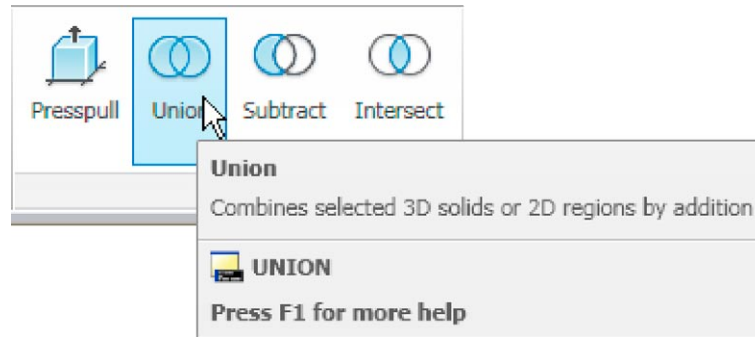

Fig. 12.11 Selecting the **Union** tool from the **Home/Edit** panel
3. Drawing 2 – call the **Union** tool from the **Home/Edit** panel (Fig. 12.11).